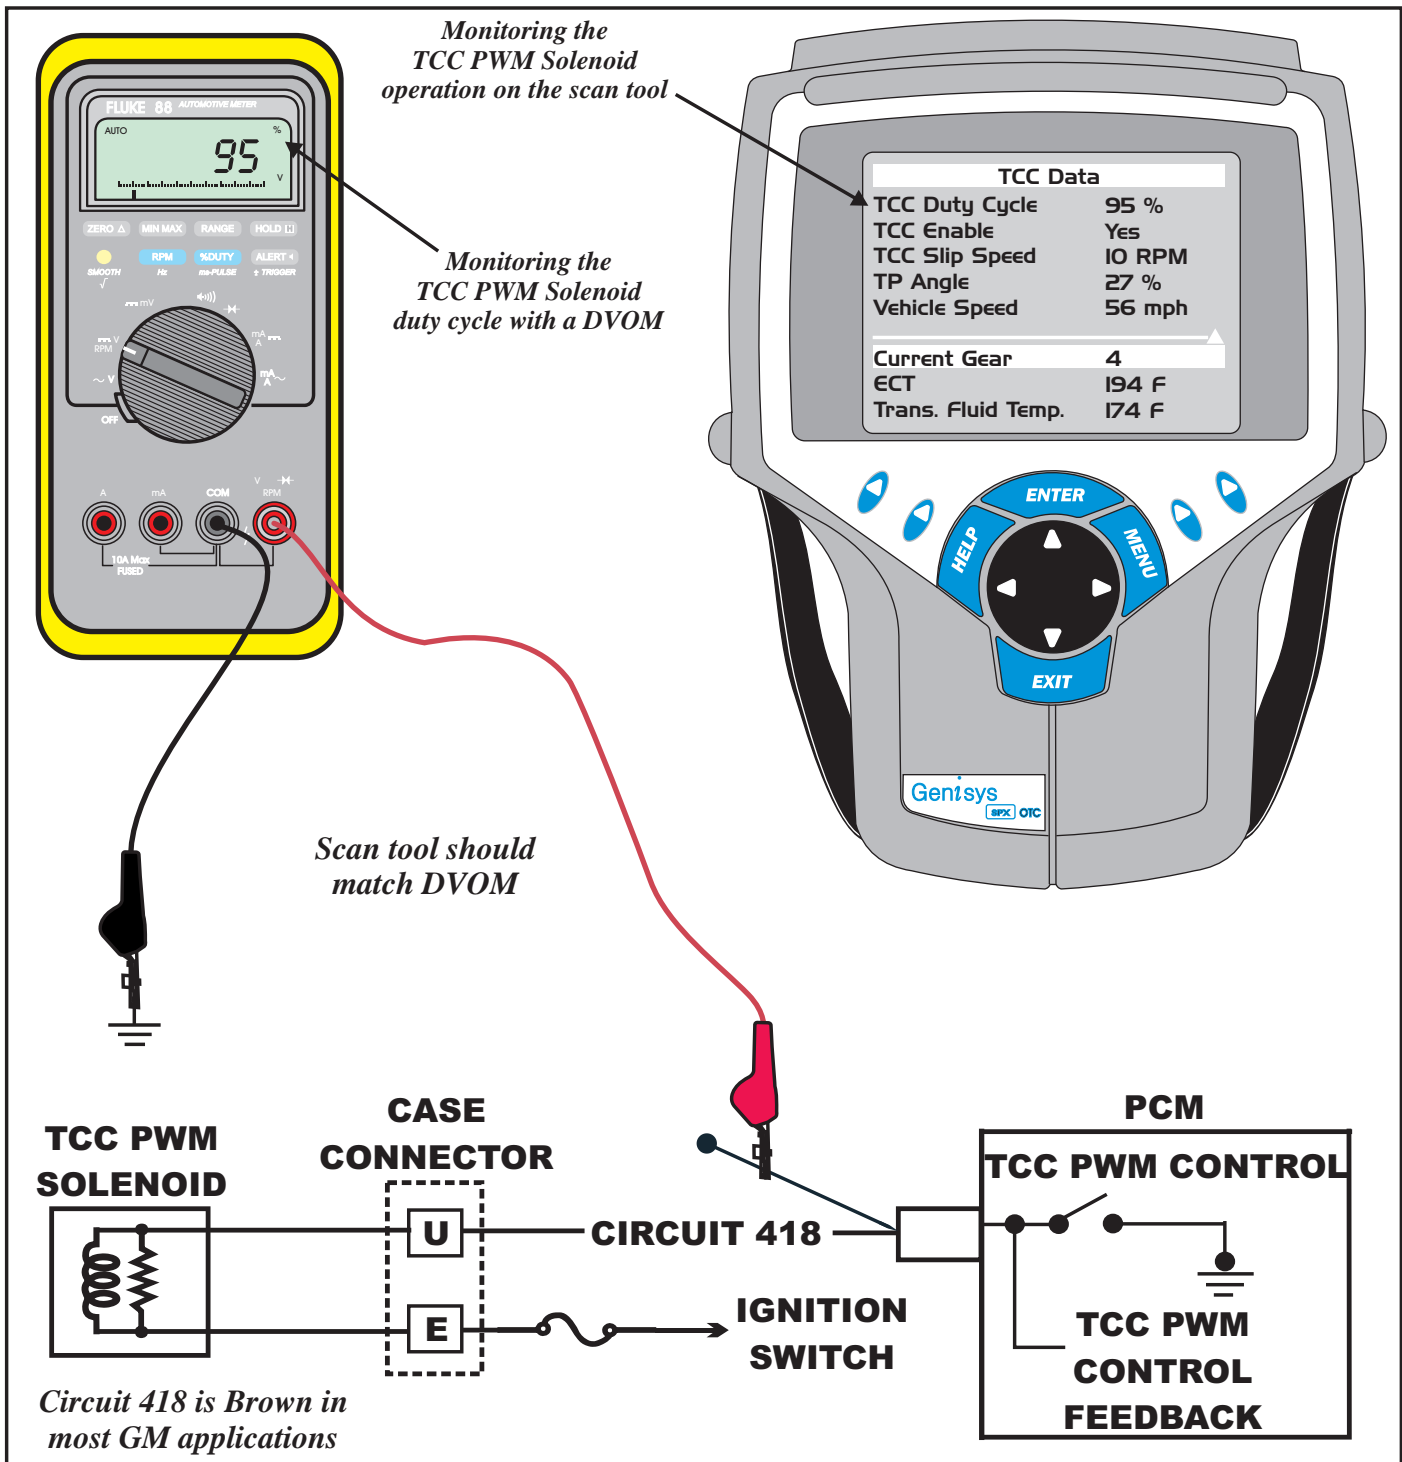

Figure 115
- The operation of the TCC PWM Solenoid is displayed on the scan tool as percentage of duty cycle. A DVOM set to the duty cycle position can be used to see actual duty cycle and the compare it to the same scan tool parameter to insure the scan tool is telling the truth as seen in Figure 115.
- Either check the current flow on the circuit with a low current clamp, or, cut the wire and place your meter in the circuit, or use some type of device that is capable of inducing a load on the wire such as a headlamp, crude as this may be, it works. A DVOM set to Duty Cycle (%) will also work well as seen in Figure 115.
- The PWM 3-2 Solenoid can be checked on the scan tool by viewing the percentage of duty cycle or with a DVOM voltage setting or with it set to duty cycle similar to the illustration in Figure 115.